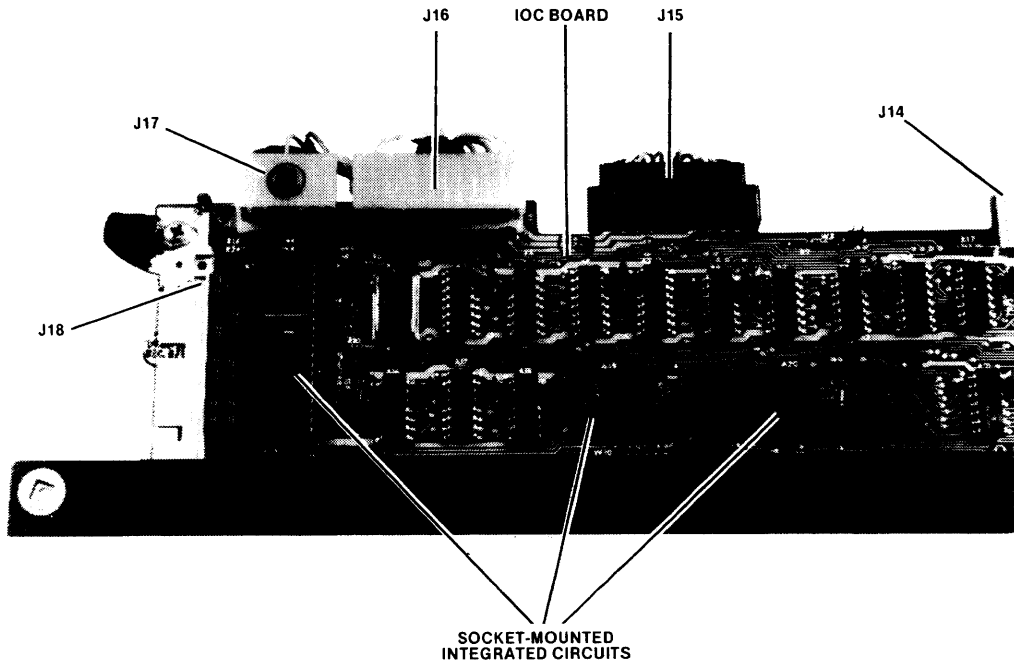

Figure 2-2. Edge Connectors and Socket-Mounted Integrated Circuits
- d. There are five edge connectors (J14 through J18) on top edge of IOC board at rear of mainframe chassis. (See figure 2-2.) Carefully disconnect attaching cable from each of these connectors, one at a time, and then push it firmly back on to ensure proper seating.